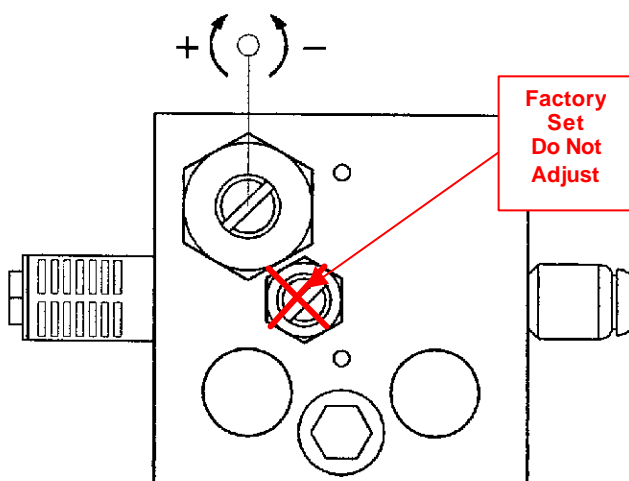

Figure 5
2. The automatic drop pressure adjustment screw is shown below (Figure 5). With the regulation screw in the minimum pressure position (nut level, 12mm screw inside), the automatic drop pressure will be adjusted to approximately 31psi.